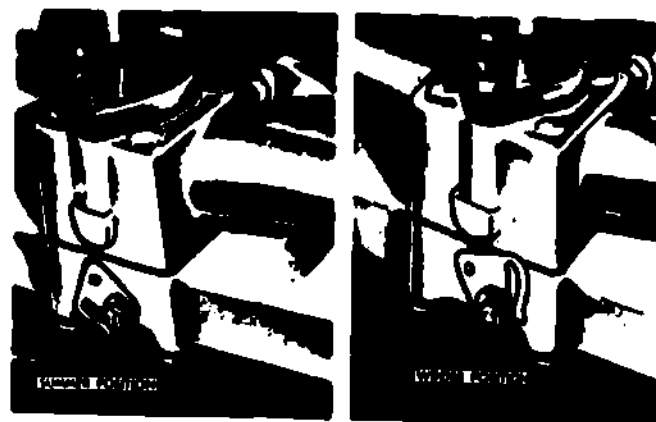

Fig 5-8. Manual control of the valve.
c. **Manual control of the hot spot (fig 5-8).** For manual control of the valve, a plate (with markings to indicate the position of the valve) is installed on the control valve shaft. The plate must be moved by hand to the desired position and then secured with a locknut.